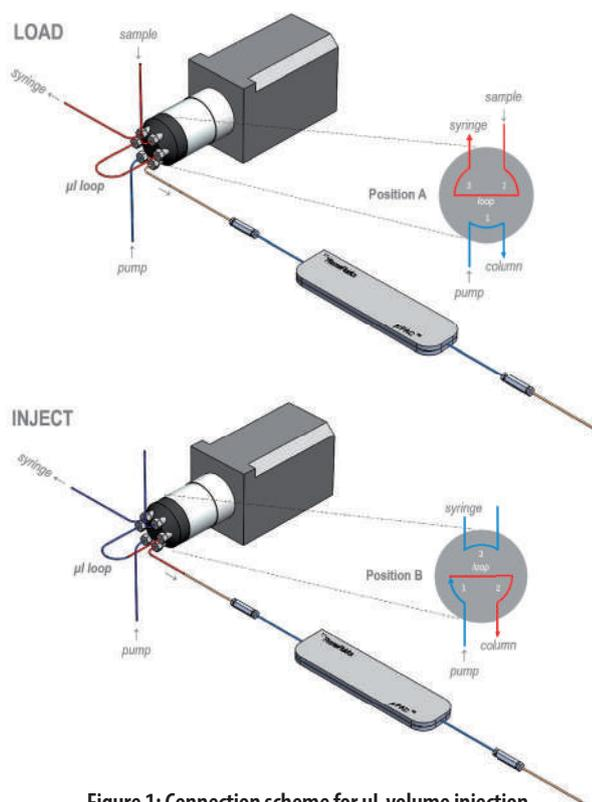

Figure 1: Connection scheme for μ L volume injection
- The μ PAC™ capLC column is connected to a standard HPLC 6-port switching/injection valve with a 360 μ m O.D. 50 μ m I.D. fused silica capillary with a 1/16" connection (Figure 1).